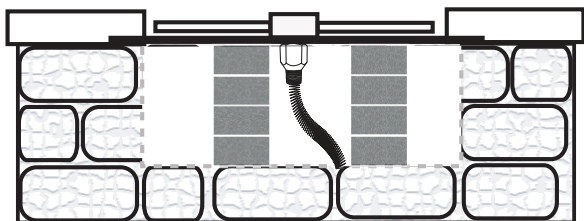

Fig. 6 Shows blocks supporting center of disc.
**NOTE:** Methods of supporting the center of the disc underneath or supporting an oversized opening are shown on page 6 in figures 6 & 7.